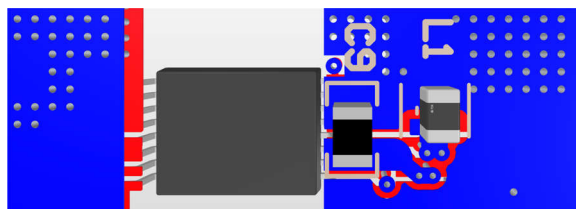

Figure 3-12. Bottom Side, Buck Boost, VEE LC Placement and Routing
- a. Place the 2.2 μ F high frequency bypass capacitor (C9) as close as possible to VEE and COM pins. The self-resonant frequency in 3MHz to 4MHz is best to offer low impedance decoupling for the switching frequency noise of the buck-boost converter with the 3.3 μ H inductor (L1) selection. Putting the capacitor on the different side of PCB and using vias to connect is possible, to reduce the switching loop between the capacitor and the internal low-side MOSFET of the VEE buck-boost converter. In addition, putting the capacitor on different side also simplifies the decoupling capacitor placement of VDD pin and COM pin. An example of bottom side PCB placement of C9 and L1 is shown in Figure 3-12.